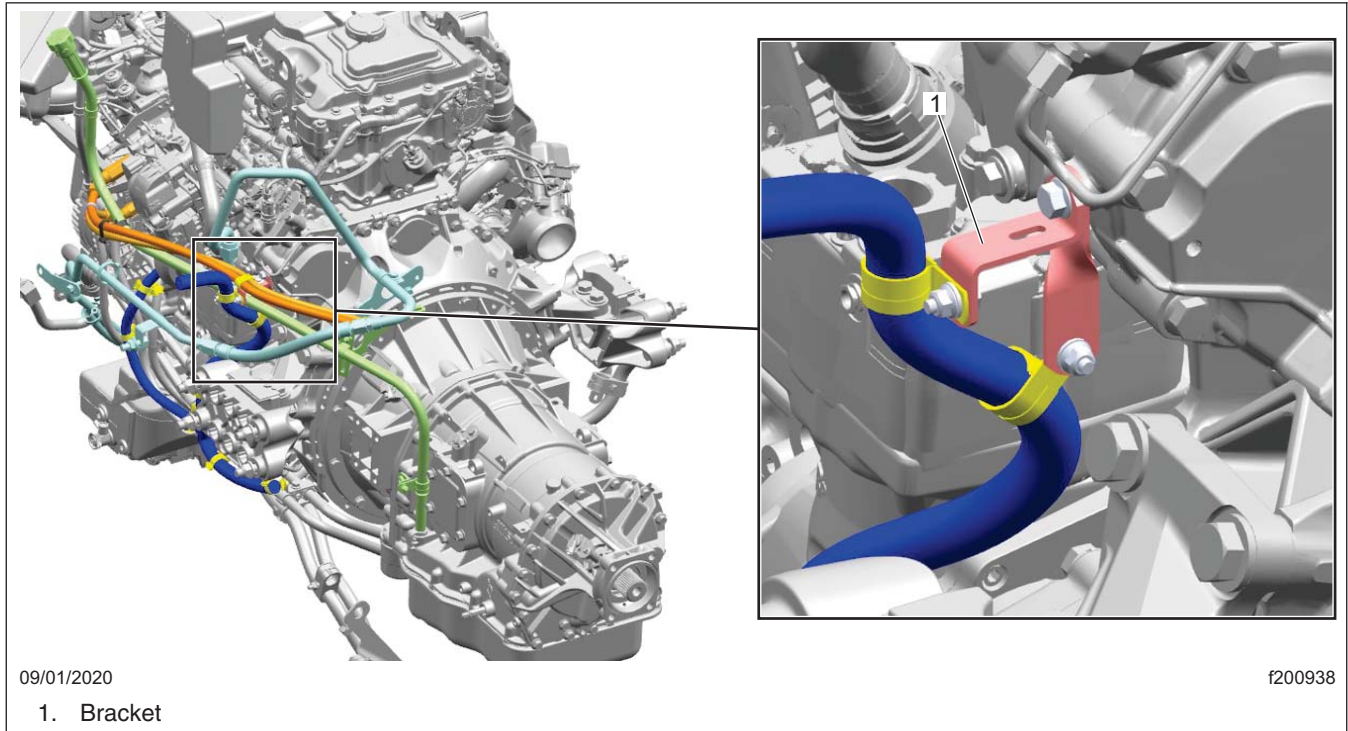

Fig. 11, Bracket Location
14. Install two new standoff brackets at the left rear of the engine, replacing the existing fuel line standoff bracket with 23-13514-020 and adding bracket (23-09130-042). Use screw (23-13345-020) to mount both the brackets on the engine housing. See **Fig. 11** for correct location and orientation of the bracket.